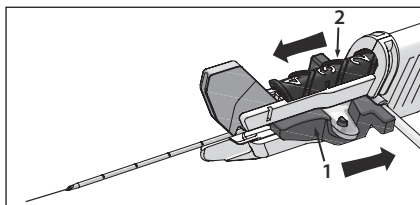

Figure 4
- Using the juncture hub advancer return catheter to original position. Ensure catheter is fully seated in the device and needle tip is visible (refer to Figure 4 step 1).
- Advance the guidewire slider to original position (refer to Figure 4 step 2).